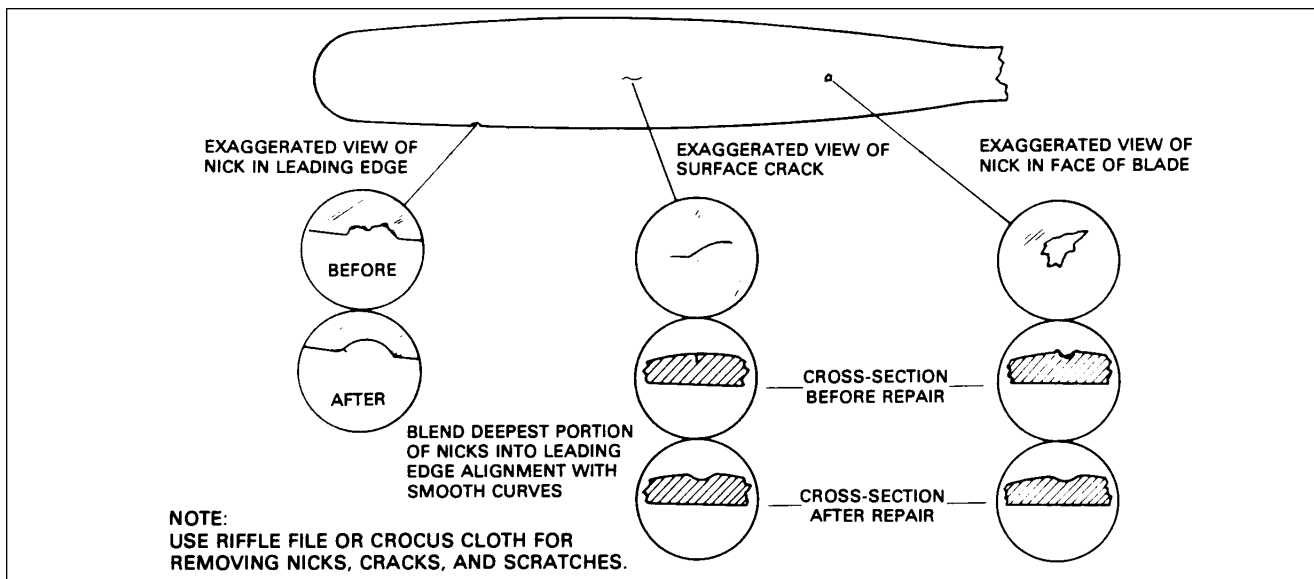

Figure 61-1. Typical Nicks and Removal Method
2. Nicks in leading edges of blades should be filed out and all edges rounded, as cracks sometimes start from such places. Use fine emery cloth for finishing. (Refer to Figure 61-1 for propeller blade care.) A propeller with severe nicks, scratches, corrosion or cracks should be returned to a propeller overhaul shop or the manufacturer for inspection and repair.